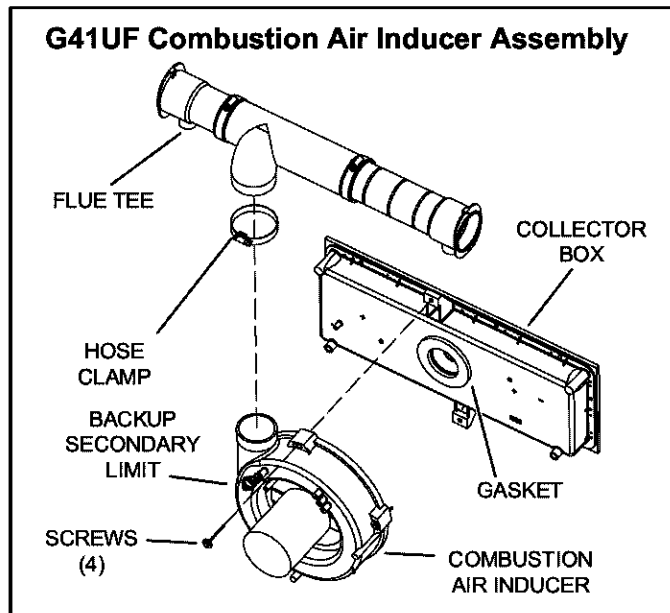

Figure 1
4. Loosen the hose clamp that secures the combustion air inducer to the flue tee assembly (see figure 1).
7. Remove four screws which secure the combustion air inducer to the collector box and remove the combustion air inducer from the furnace (see figures 1, 2 and 3).
11. **G43UF, G51MP and G61MP(V) Units Only** — Use existing screws to re-install existing combustion air pressure proving switches on replacement combustion air inducer housing. Use a torque wrench to tighten screws to 15 in. lbs. (169 N-cm).